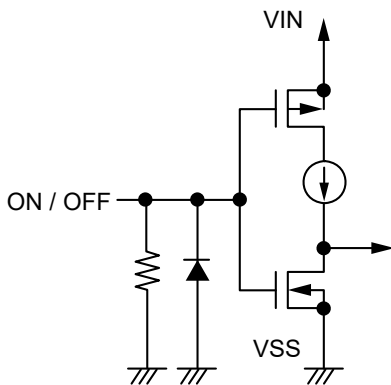

Figure 18 S-1333 Series A / C type
Note that the current consumption increases when a voltage of 0.25 V to $V_{IN} - 0.3$ V is applied to the ON / OFF pin. The ON / OFF pin is configured as shown in **Figure 18** and **Figure 19**.
*1. Note that the IC's current consumption increases as much as current flows into the pull-down resistor when the ON / OFF pin is connected to the VIN pin and the S-1333 Series A / C type is operating (refer to **Figure 18**).